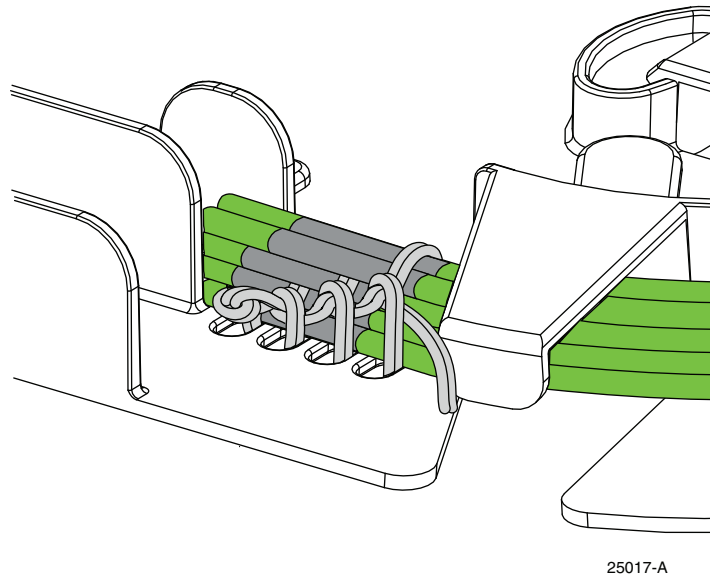

Figure 24. Tying Off the Fourth Layer
12. If a fourth stacking layer is present, repeat the same basic actions to tie it off at the fiber breakout deck using a fourth half hitch knot, as shown in Figure 24.